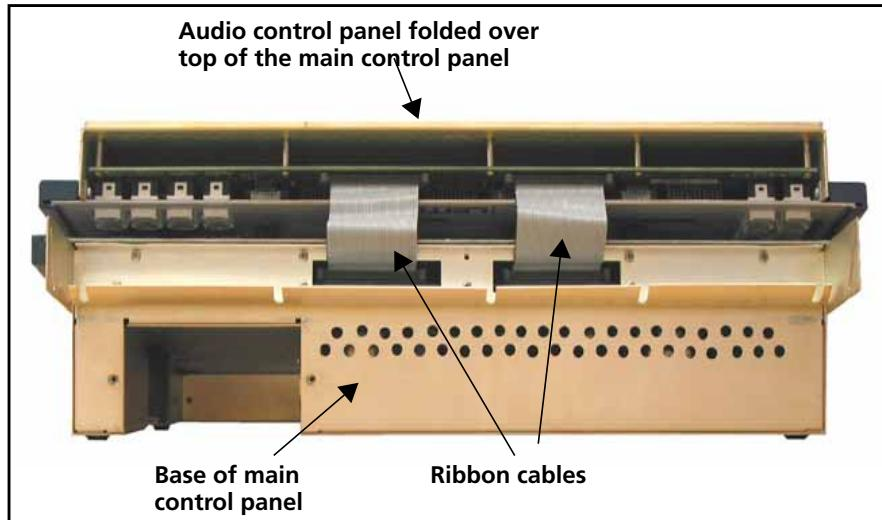

Figure 2-6 Ribbon Cable Between Main and Audio Control Panels
- 5 Face the audio control panel down on top of the main control panel buttons. Attach the two ribbon cables from the main control panel to the audio control panel (see Figure 2-6).